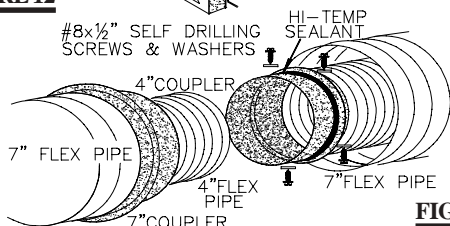

FIGURE 13
6. If more liner needs to be used to reach the fireplace, couple them together as illustrated in **FIGURE 13**. The vent system must be supported approximately every 3 feet for both vertical and horizontal runs. Use Napoleon support ring assembly **W010-0370** or equivalent noncombustible strapping to maintain the minimum 1" clearance to combustibles.
7. If more liner needs to be used to reach the fireplace, couple them together as illustrated in **FIGURE 13**. The vent system must be supported approximately every 3 feet for both vertical and horizontal runs. Use Wolf Steel support ring assembly **W010-0370** or equivalent noncombustible strapping to maintain a clearance to combustibles of 1".